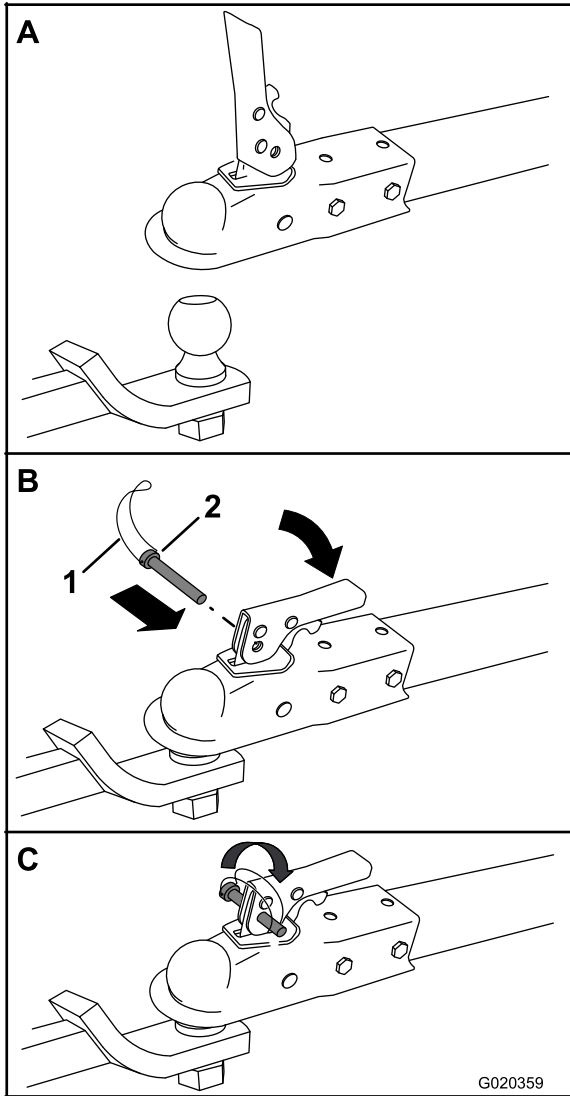

**Figure 16**
**Note:** Torque the lug nuts in the sequence shown in Figure 16.